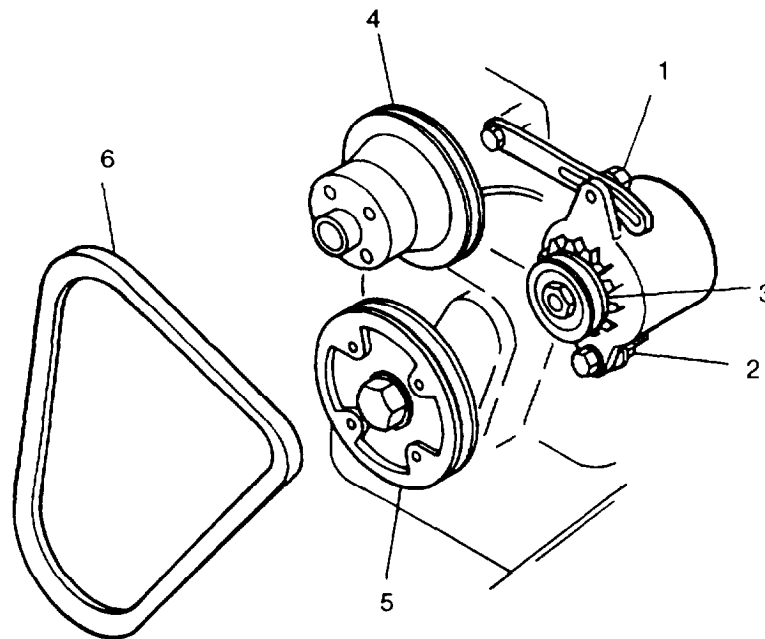

FIGURE 2-25. Fan Belt
- e. Inspect fan belt (6, FIGURE 2-25) for frays, cracks, oil soaking, and other damage
- g. Tighten alternator mounting bolt (1) and nut (2).
- e. Loosen alternator mounting bolt (1, FIGURE 2-25) and nut (2).
- f. Pivot alternator to relieve tension on fan belt (6). and remove belt (6) from alternator pulley (3), fan pulley (4), and crankshaft pulley (5).
- a. Slip fan belt (6, FIGURE 2-25) over fan (36, FIGURE 2-23).
- b. Install belt (6, FIGURE 2-25) onto alternator pulley (3), fan pulley (4), and crankshaft pulley (5)
- c. Adjust tension on fan belt (6). paragraph 2.83.2.